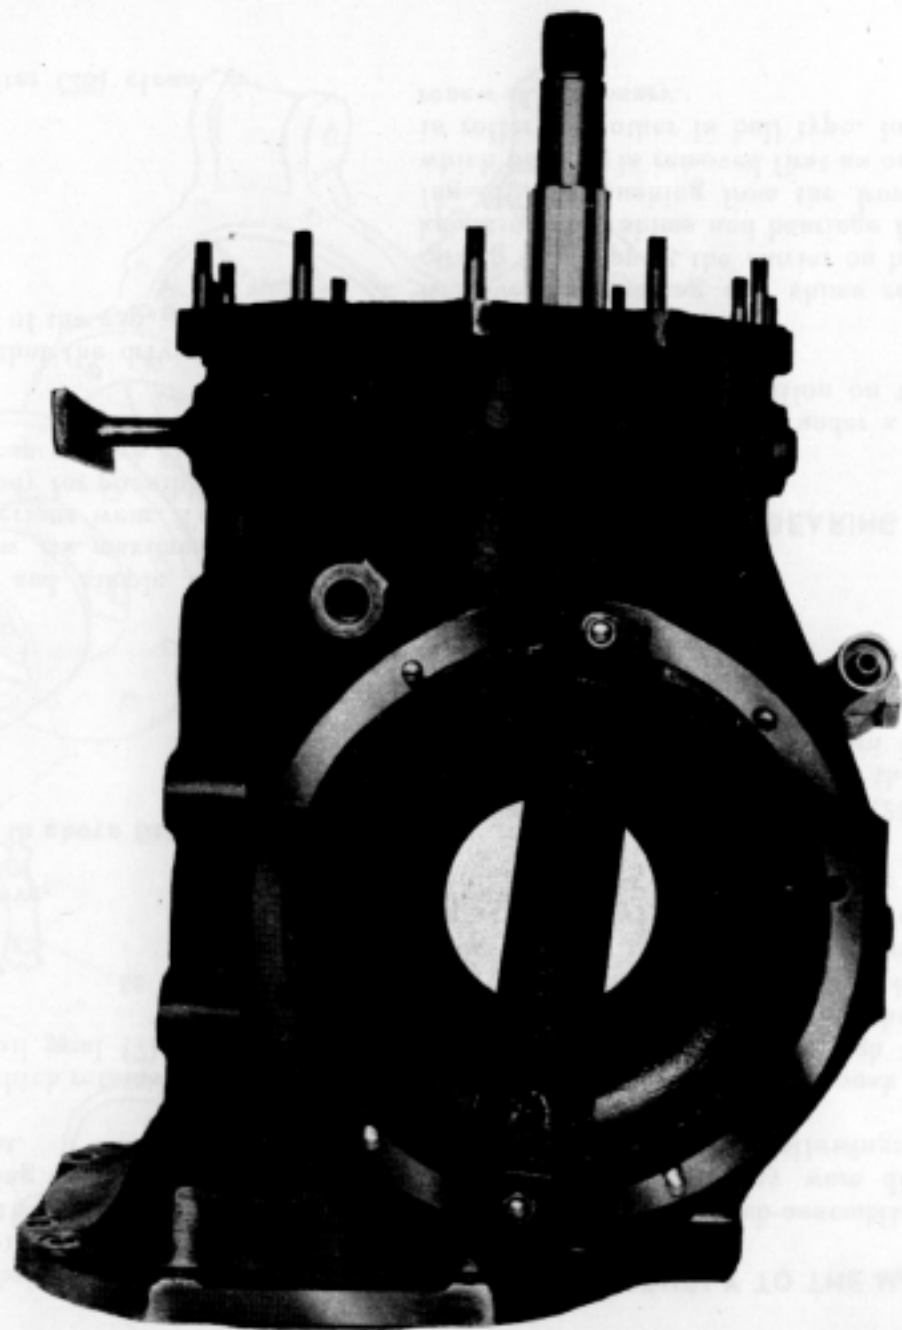

Fig. 4. How the dial recording micrometer is used to measure backlash
For this operation you will require a post-mounted dial indicator with an extended probe (Fig 4).
2. Insert the probe of the dial indicator through spigot housing until it touches one of the teeth of the crown wheel (Fig 4) Note the reading on the dial indicator. Turn pinion by hand to rotate crown wheel, and take at least 12 readings. (14 readings are standard practice in our own workshops). Minimum reading should be .004".